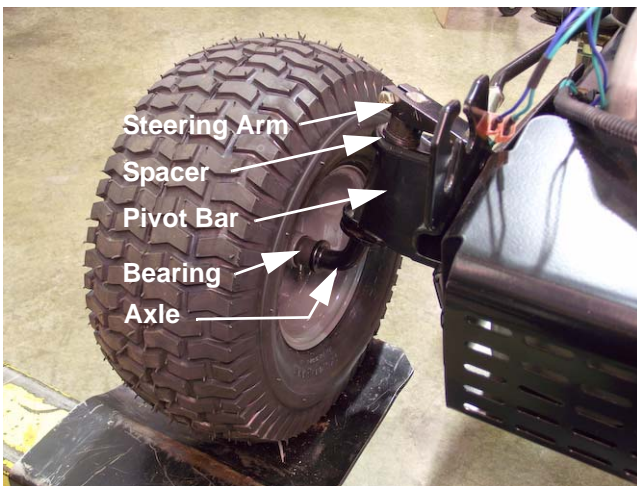

Figure 3.1
1. Safely lift and support the end of the pivot bar that the wheel is attached to. See Figure 3.1.